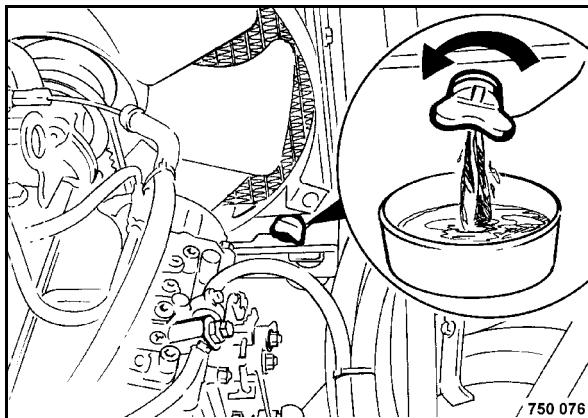

Fig. 127
- Unscrew the drain valve (Fig. 127) from the radiator.